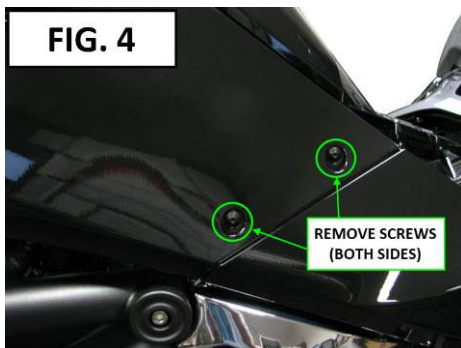

FIG. 4
4. USING A T25 TORX DRIVER REMOVE THE SCREWS HOLDING THE SIDE PANELS TO THE F3. SEE FIG. 4 AND 5. LIFT EACH SIDE PANEL OFF.